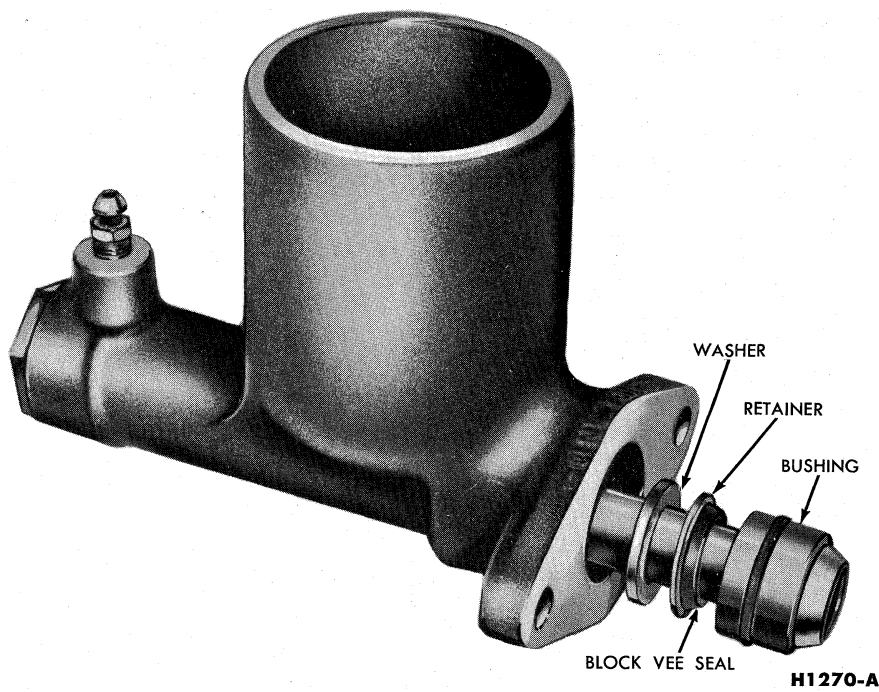

FIG. 29—Assembly of Seal and Bushing Components to Master Cylinder Push Rod
5. Install the O-ring on the bushing. Slide the washer, the retainer, the “Block Vee” type seal, and the bushing onto the push rod (Fig. 29). Take care to avoid damaging the seal when sliding it onto the push rod. Assemble the seal to the retainer flange as shown.